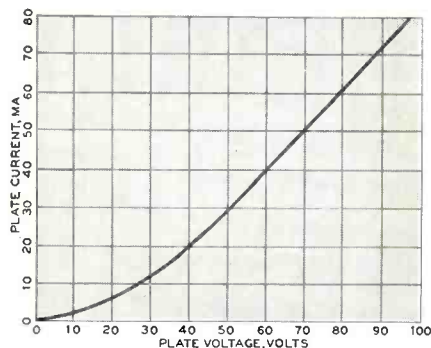
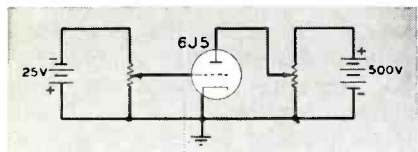

Fig. 1. How the current through a diode varies with the positive plate voltage.
Fig. 3. A circuit for determining the operating characteristics of a triode.
**A** DIODE, as was discussed in previous chapters of this series, is a two-electrode device (often a vacuum tube) which conducts current freely in one direction, but not in the opposite direction. In the case of a vacuum tube, electrons travel easily from the cathode electrode to the plate electrode but not in the reverse direction, because the heated cathode can emit electrons from its surface while the plate cannot. If the plate is positive with respect to the cathode, current flows; and the more positive the plate potential, the greater the current, up to the point at which the current consists of all the electrons the cathode can possibly emit. Within the normal positive operating range of the tube, though, the current is reasonably proportional to the plate voltage. We can show this easily by a chart such as that in Fig. 1. The curve is called the *plate characteristic* of a diode; it shows how current through the tube (plate current) varies according to the voltage of the plate with respect to the cathode (plate voltage). For example, with 40 volts on the plate, the current is about 20 ma; with 60 volts, 40 ma. If the proportionality between plate voltage and current were exact, the curve would, of course, be a straight line.
Now, suppose we adjust the grid voltage to  $-25$  v with respect to the cathode. (All voltages on vacuum-tube elements are assumed to be with respect to the cathode, even when the cathode is not at ground potential as it is in Fig. 3.) We find that the plate current ceases almost entirely, even though the plate is 160 v positive. The tube is "cut off" by the negative grid voltage. Note that the grid still doesn't conduct; being negative with respect to the cathode, it repels the electron cloud back
marked effect on the plate current. But the plate voltage exercises some control on plate current too, just as it does in a diode. If we chart plate current vs. plate voltage for the circuit shown in Fig. 3, for various fixed values of grid voltage, we obtain the family of curves depicted in Fig. 5. These are the plate characteristic curves for the 6J5, 6SN7, and 12AU7 triodes. Each curve is for the marked value of grid voltage; it shows what value of plate current will flow for any given value of plate voltage. Looking at the  $-2$ -volt curve, for example, we can see that, with a grid voltage of  $-2$  v, 160 v on the plate will produce a plate current of slightly more than 13 ma, and that 120 v on the plate will produce a plate current of 8 ma. This curve, and the others in the family, have a marked resemblance to the diode plate characteristic (Fig. 1).